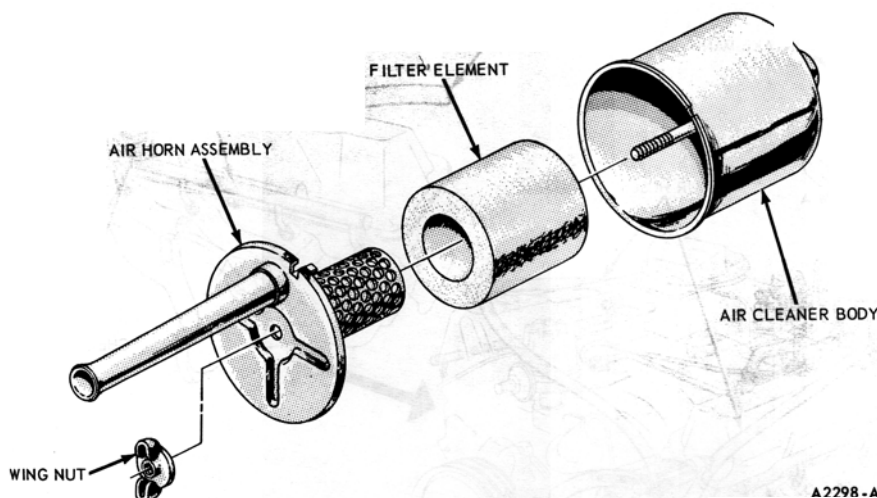

FIG. 6—Thermactor Exhaust Emission System Air Cleaner
1. Remove the wing nut (Fig. 6) and air horn assembly. Remove the filter element from the air horn assembly.
the air cleaner body. **Be sure the tang is fitted in the slot (Fig. 6).** Install the wing nut.